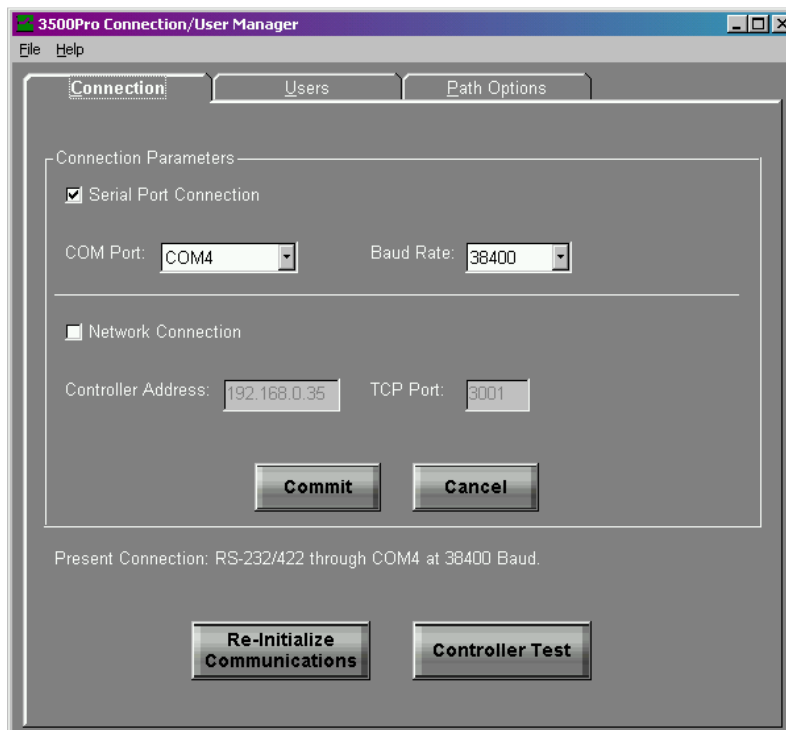

Figure 67: Connection Tab
2. Select **Start > Programs > 3500Pro > 3500Pro User Manager**. The 3500Pro Connection/User Manager window displays (see Figure 67).